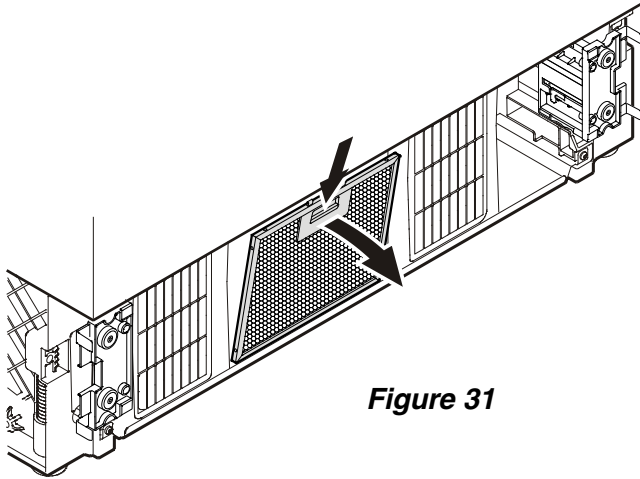

Figure 31
- Push down the button of the air filter, tilt to the front and remove - **Figure 31**.